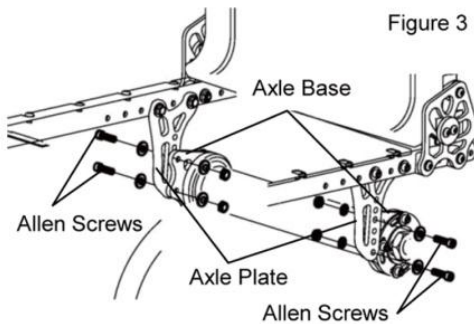

Figure 3
3. Remove the four Allen Screws that secure the axle plate to the axle base. (See Figure 3)